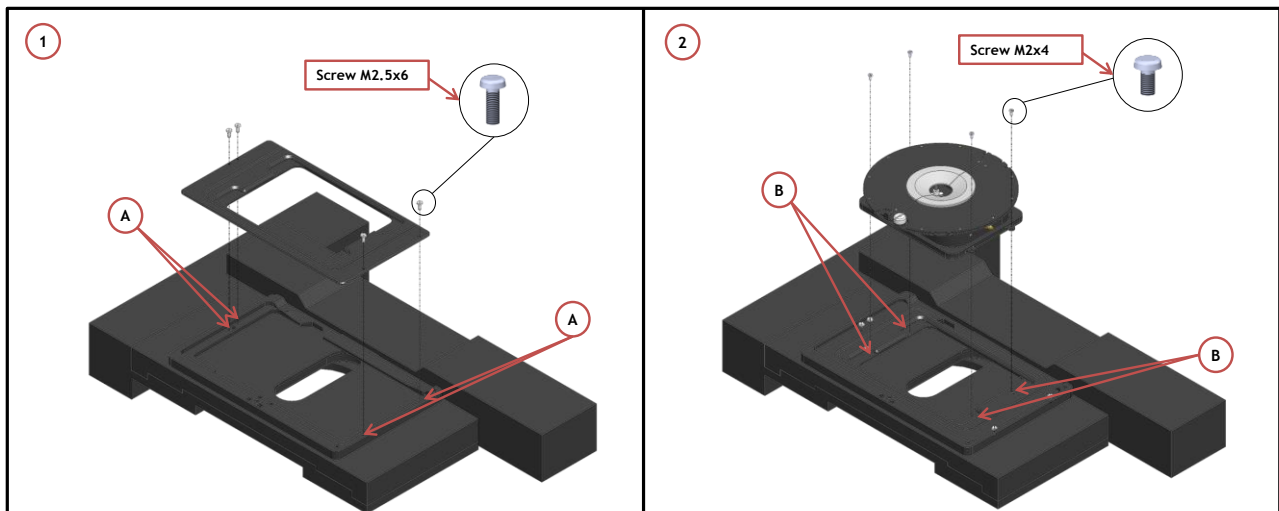

Figure 14. How to fix the H301-UP on the stage
H301-UP fits on the stage. To fix the chamber on the stage, follow the steps shown in Figure 14
1. Place the holder on the stage and fix it by the four pan head screws M2.5x6. The place of the pan screws is indicated by letter A. (See Figure 14 Image 1).
2. Place the chamber on the stage and fix it by the four pan head screws M2x4. The place pan screw is indicated by letter B. (See Figure 14 Image 2).